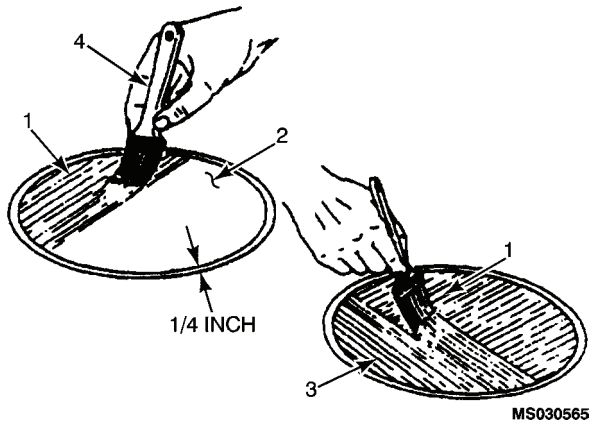

Figure 2-32. Applying Adhesive Over Previous Coat.
(h) Apply a uniform coat of barrier adhesive (item 2, table 2-11)(1, figure 2-32) in one direction over previous coat of repair adhesive (2) to within no more than 1/4 inch of repair area of O.D. Use a brush. Remove any excess adhesive from unbuffered area. Use clean cloth (item 16, table 2-11) dampened with acetone (item 3, table 2-11). Wear gloves (item 4, table 2-11). Allow barrier to dry to touch.
(j) Carefully apply a uniform coat of barrier adhesive in one direction (1, figure 2-32) over previous coat of repair adhesive mixture (2). Use a brush (4). Remove any excess adhesive from unbuffered area. Use a clean cloth (item 16, table 2-11) and acetone (item 3, table 2-11). Wear gloves (item 4, table 2-11). Allow barrier to dry to touch.